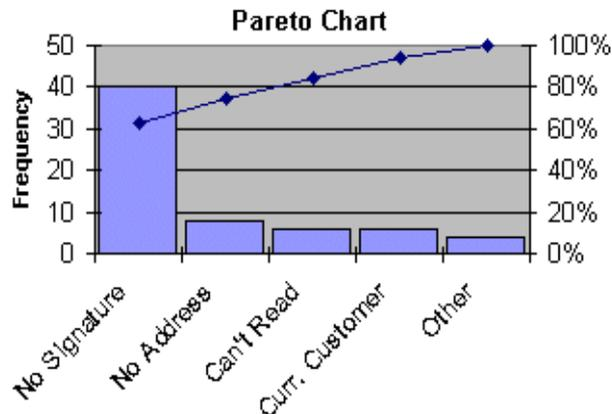

Fig.6. Sample Pareto chart depiction
**Written /Printed Information.** If you are going to use handouts, posters, letters, or other written materials as part of your project, include a copy of those in the plan. These should be included as attachments to the workbook. These attachments should have a Figure Number and Title (e.g. "Figure 6, Sample handout to the troop") and be referenced in the appropriate section of the text.
A Pareto chart is a type of vertical bar graph that shows which problems to solve in what order (see example in fig.6). It is used to display the relative importance of problems or conditions (the differences between groups of data) and to determine priorities. The Pareto is used to sort out the "vital few" from the "trivial many." Generally, Pareto charts are used to illustrate frequency data by category [i.e., how often different problems occur].